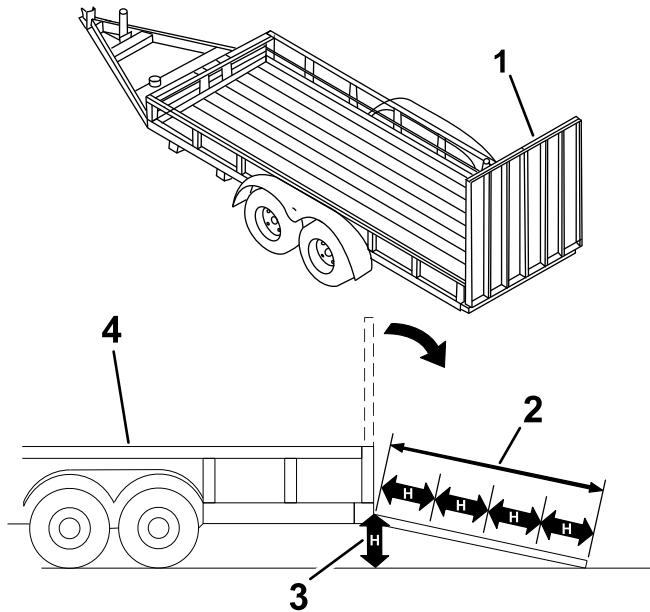

Figure 28
3. Lower the ramp (Figure 28).